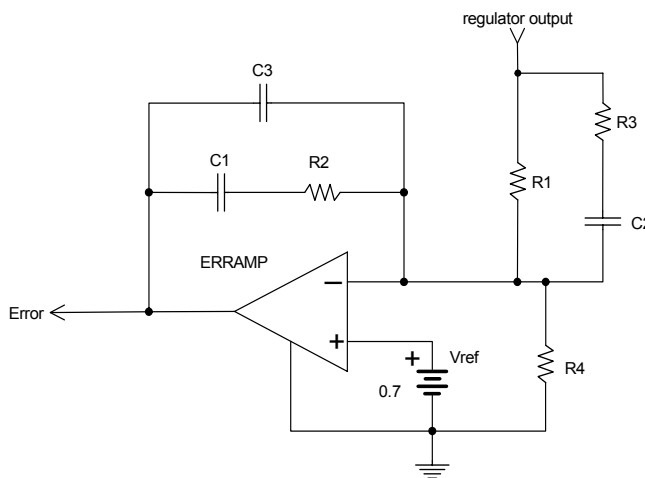

Figure 9. Type 3 Compensation
At this point, the compensation type can be decided. The two standard methods for compensating a Voltage Mode Buck converter are Type Two and Type Three compensation (the name references the number of compensating slopes in the response; Type Two has two, Type Three has three). See Figures 9 & 10. Both Type Two and Type Three compensation are identical in that they are designed to offset the complex pole and ESR zero of the output LC filter. Where they differ is in the number of compensating poles and zeros provided. Type Two compensation is known as a “single pole-zero” compensation, in that it supplies a single compensating zero, and a single compensating pole in the Error Amplifier’s response. The Type Three compensation is known as “pole-zero pair” compensation, in that it supplies two compensating poles and two compensating zeros. The deciding factor for which of the two methods of compensating the loop can be used is based on the amount of
To calculate the compensation component values (Reference Figure 9):
Step 6 – Select Type Three components (reference Figure 9):